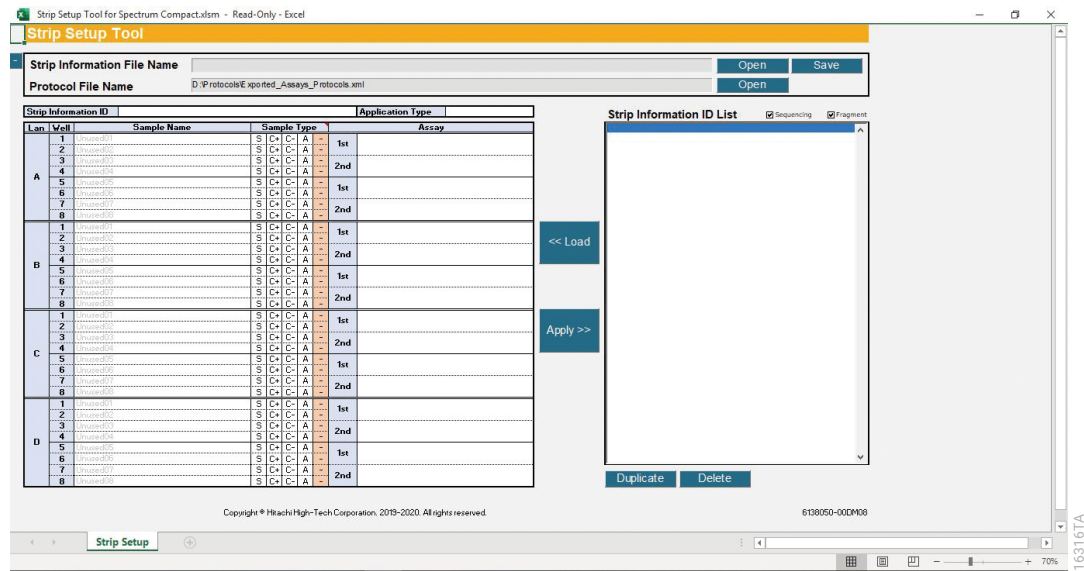
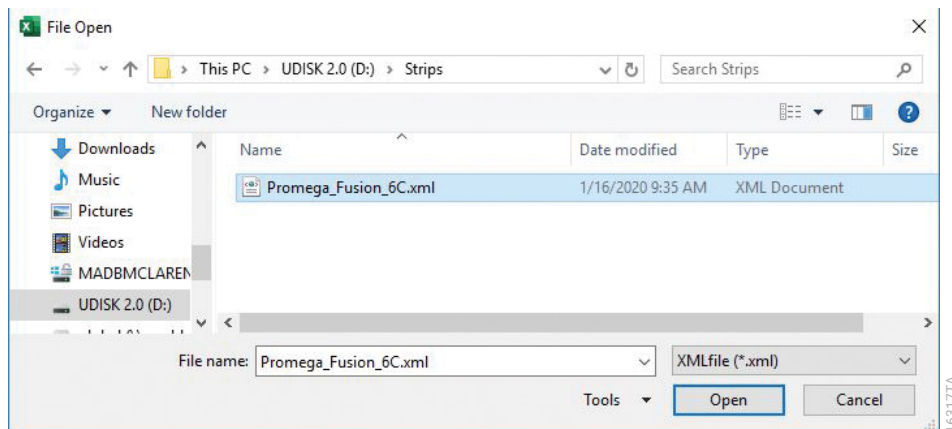
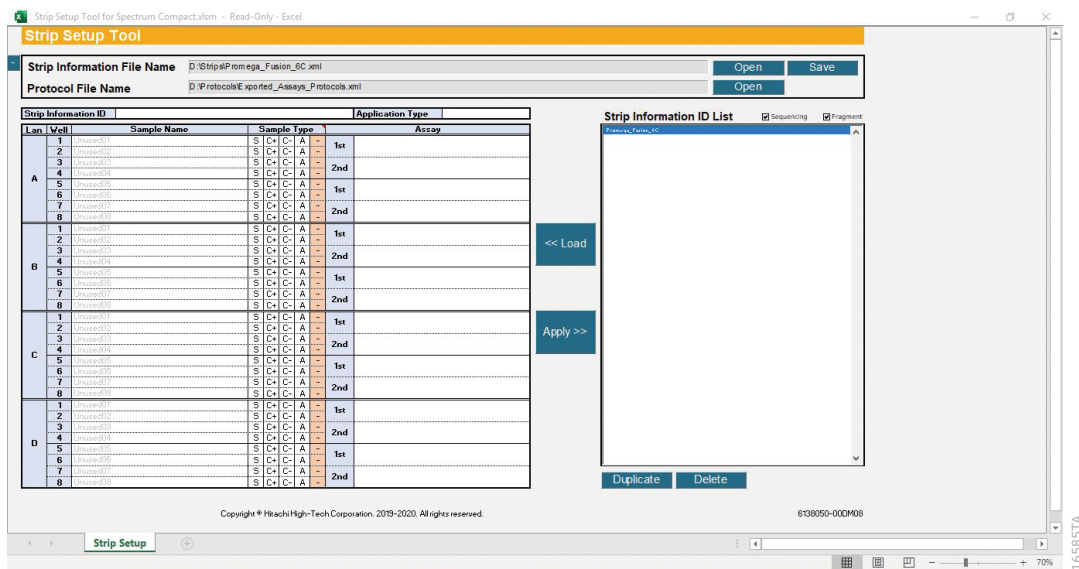

Figure 249. Strip Setup Tool for Spectrum Compact with Protocol .xml file in Protocol File Name.
Figure 250. Browsing window.
Figure 251. Strip Setup Tool for Spectrum Compact with strip .xml file in Strip Information File Name.
- After opening a protocol .xml file within the Strip Setup Tool for Spectrum Compact, select **Open** on the right-hand side of the Strip Information File Name box (Figure 249). This opens a browsing window. Browse to the location of the strips .xml file created and select **Open** (Figure 250). A Microsoft® Excel® window will appear stating “Strip information file read complete”. Select **OK** to close out of this window. The strip .xml file name is now displayed at the top of the Strip Setup Tool in the Strip Information File Name box (Figure 251).
2. Select the desired Strip in the Strip Information ID List on the right-hand side of the screen followed by **Load** (Figure 251).